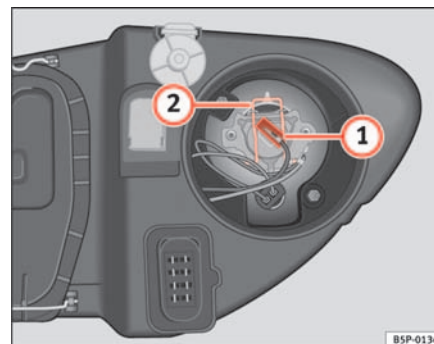

Fig. 185 Main beam headlights
- Remove the connector ⇒ fig. 185 ② from the bulb.
- Press the spring ⇒ fig. 185 ③ inwards and to the right.